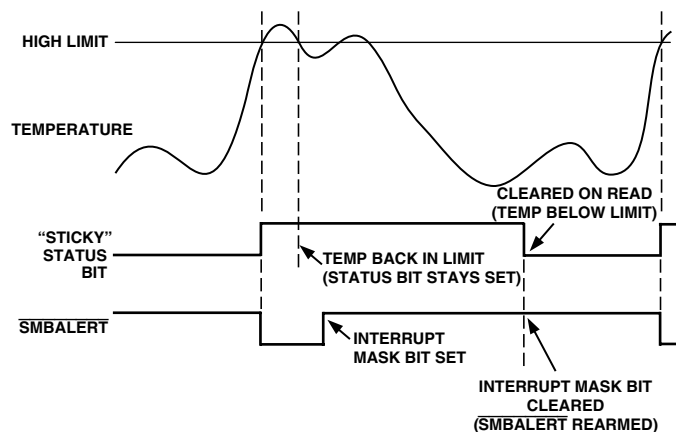

Figure 24. How Masking the Interrupt Source Affects **SMBALERT** Output
7. Periodically poll the status registers. If the interrupt status bit has cleared, reset the corresponding interrupt mask bit to 0. This causes the **SMBALERT** output and status bits to behave as shown in Figure 24.